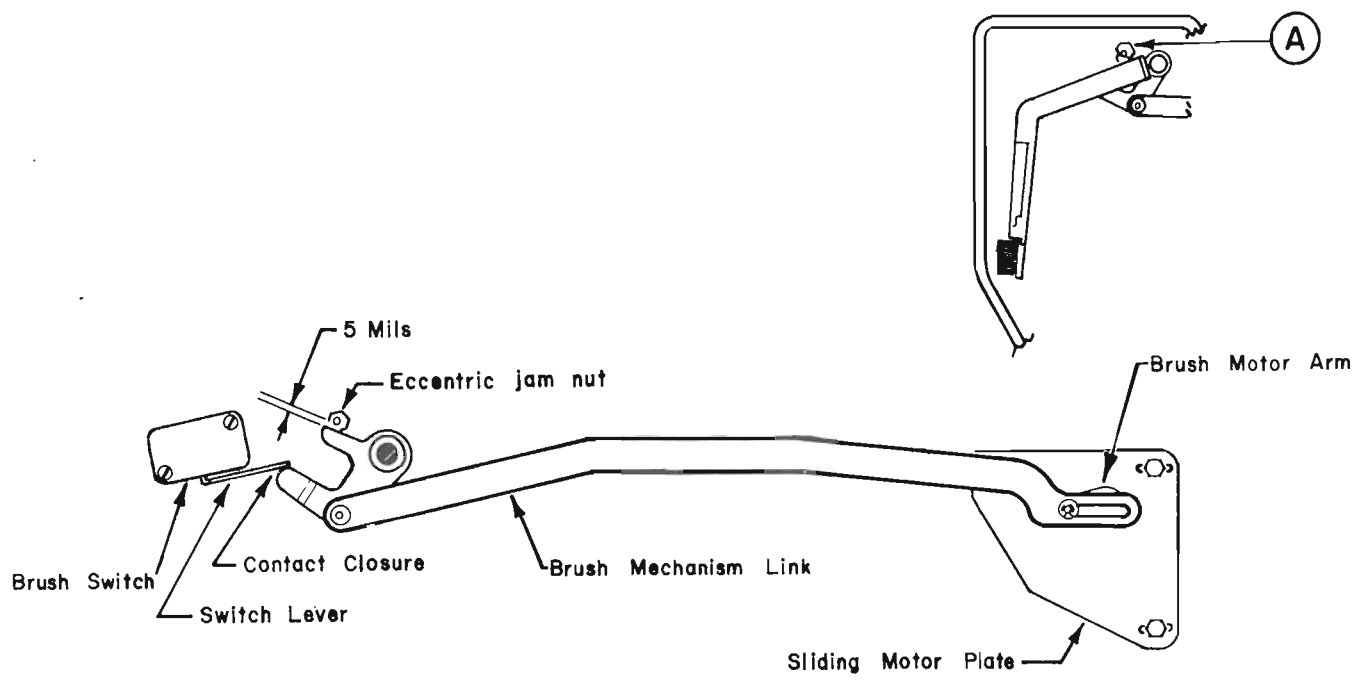

Figure 5-4. BRUSH MECHANISM ADJUSTMENTS
4. Exerting a light clockwise pressure on the upper brush arm, measure the clearance between the brush bristles and the bowl wall. If the clearance is not $.062 \pm .031$, loosen the jam nut on the eccentric (A) in Figure 5-4, and rotate the eccentric until proper brush-to-wall clearance is obtained. Tighten the jam nut.
5. If the brush motor arm is not in the position as shown in Figure 5-4, manually rotate the brush motor arm clockwise to that position. Insure that the pin is detented in the rear end of the slot in the brush mechanism link, as shown in Figure 5-4.